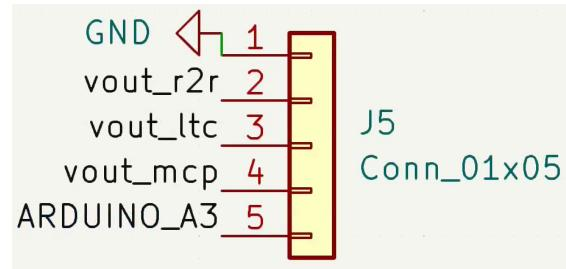

Figure 48: Header connectors for the top of the board
- Add an additional header with 5 positions (GND, A0/R2R, A1/LTC, A2/MCP, and A3) so that we can connect our circuit to a breadboard at the same time it is plugged in to an Arduino. The connections to make can be seen in Figure 48.